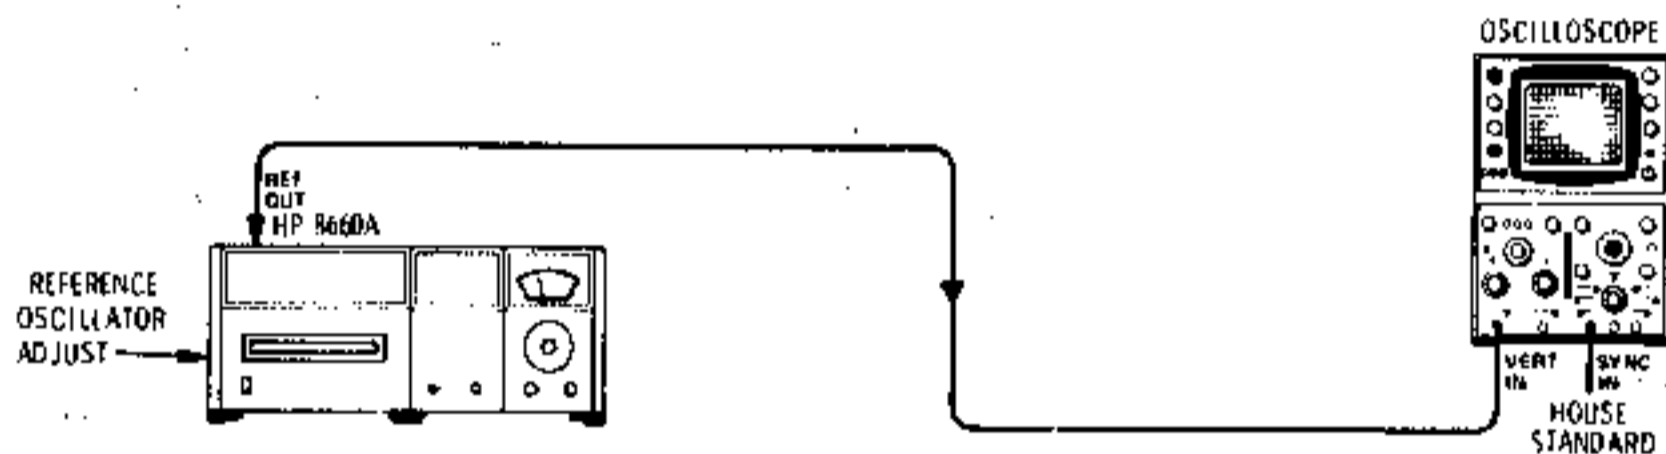

Figure 5-3. Alternate Reference Accuracy Adjustment Test Setup
2. Alternate Reference Accuracy Adjustment (See Figure 5-3).